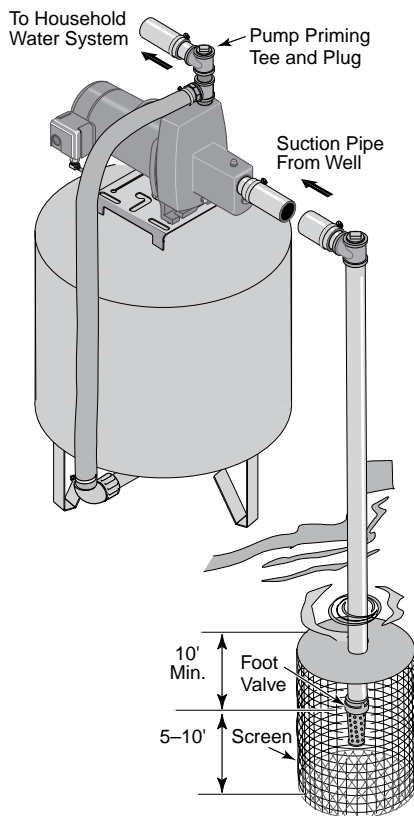

Figure 3: Surface Water Installation
Installation for Surface Water (Figure 3)
2. Assemble a foot valve and suction pipe (see Figure 3). Make sure that the foot valve works freely. Use Teflon™ tape or a Teflon™-based pipe joint compound on threaded pipe joints. Protect the foot valve assembly from fish, trash, etc, by installing a screen around it (see Figure 3).
4. Install a priming tee, priming plug, and suction pipe to the pump (see Figure 3). Support the pipe so that there are no dips or sags in the pipe, so it doesn't strain the pump body, and so that it slopes slightly upward from the well to the pump (high spots can cause air pockets which can air lock the pump). Seal the suction pipe joints with Teflon™ tape or a Teflon™ based pipe joint compound. Joints must be air- and water-tight. If the suction pipe can suck air, the pump cannot pull water from the well.